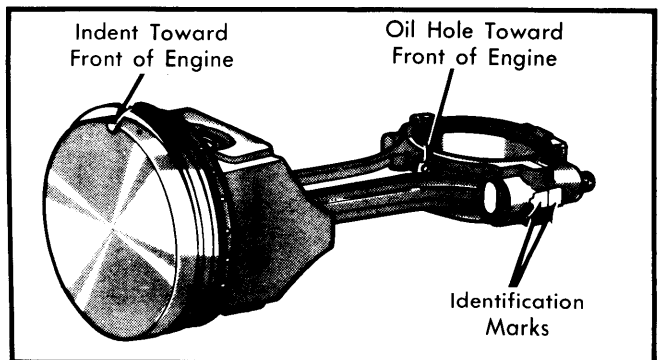

Fig. 7 Piston and Rod Installation
2) Rotate crankshaft so connecting rod journal is at center of cylinder bore. Install suitable rod bolt protectors before installing piston and rod assembly in block. Using ring compressor, compress rings and install piston in cylinder bore with indent on piston and oil hole in connecting rod pointing toward timing belt side of engine. See Fig. 7.